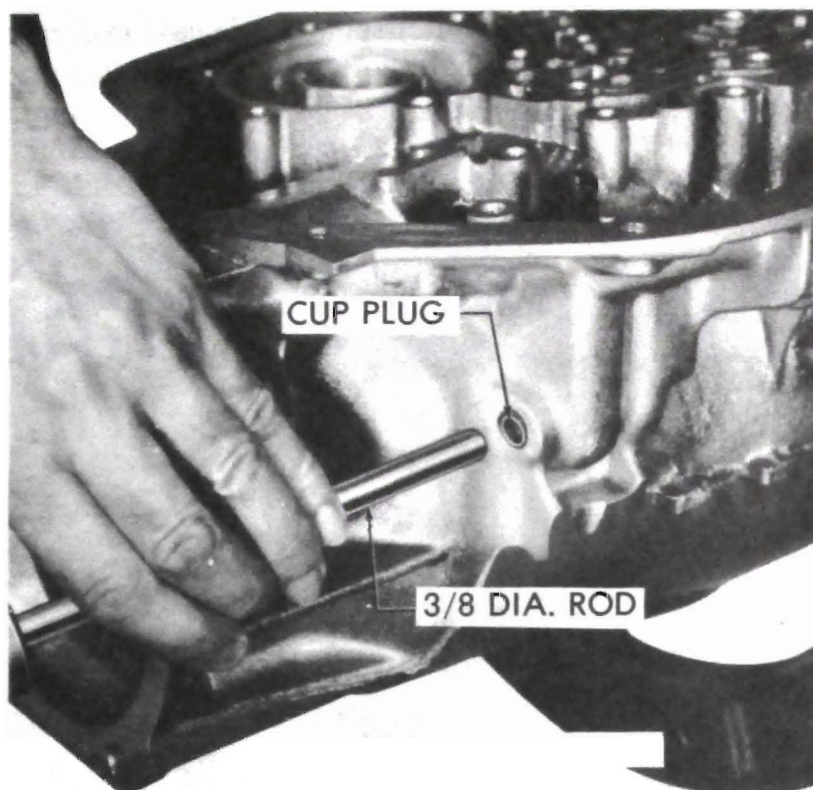

Figure 76-243
3. Install cup plug and drive into case, using a 3/8" dia. rod, until parking pawl shaft bottoms on case rib. See Figure 76-243.